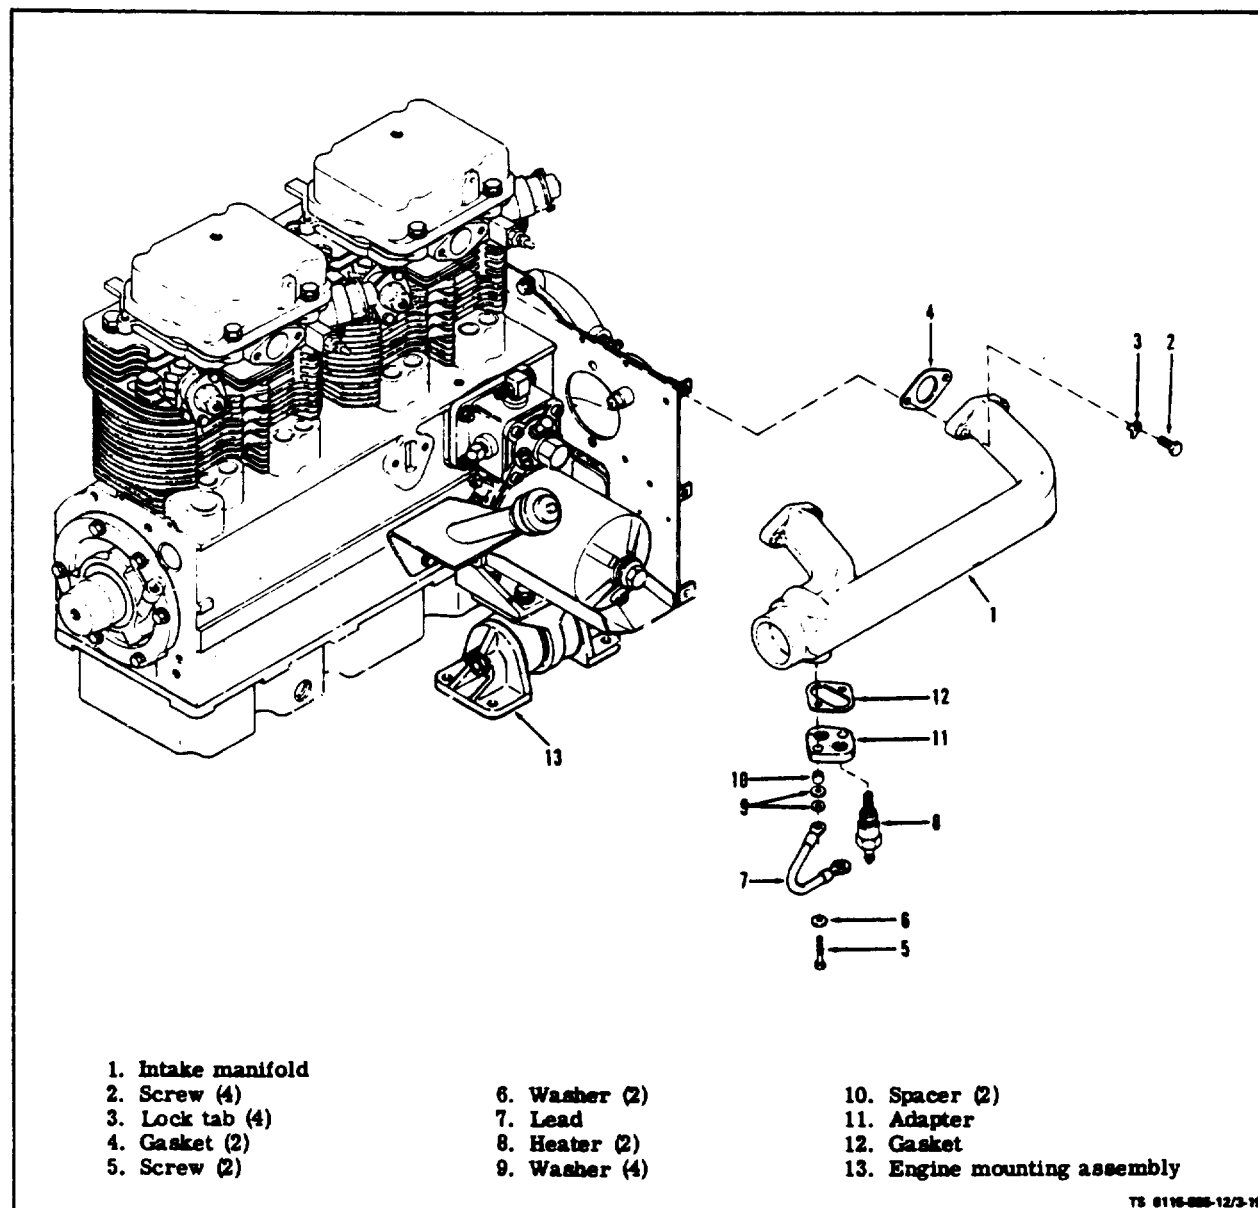

Figure 3-19. Intake Manifold Assembly
b. Intake Manifold Assembly (see figure 3-19). Inspect intake manifold (1) for cracks or physical damage. Check that manifold is properly secured to cylinder head and mounting screws (5) and lock tabs (3) are in place.
d. Engine Mounting Assemblies (Two) (see figure 3-19). On ASK equipped generators, remove oil access door and batteries access door. Inspect engine mounts (13) for deterioration or physical damage. Check for accumulation of dirt, fuel, or oil. Check that mounts are securely attached to engine and to skid-base with all mounting hardware in place.